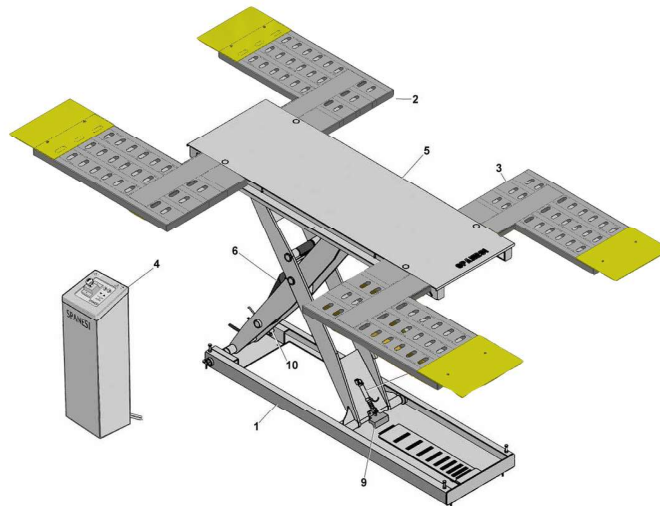

Figure 2a : PERSPECTIVE VIEW OF THE PONYBENCH-PR PLUS
- Rotate the mushroom-shaped emergency button clockwise until it is released (1). Press the reset button (2).
- Press the <ascent> button (5) until the lift rises to at least 60-70 cm above the floor. The fall-proof safety hook will rise automatically.
- Press the button for descent to the first section (6); the fall-proof safety hook (9- fig.2a) should be engaged by one of the steel blocks welded to the base sheet as the lift descends.
The lift is usually delivered with the following (Fig. 2a):